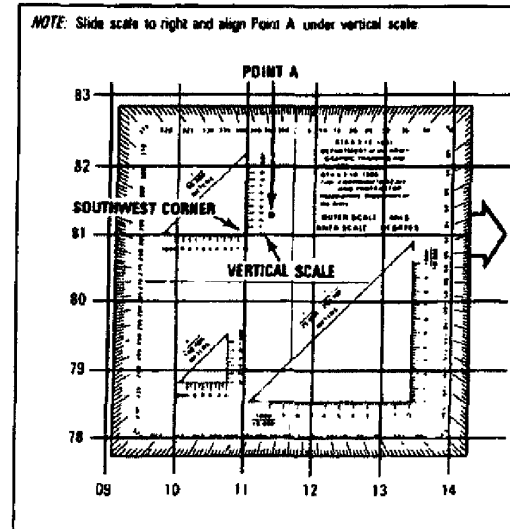

Figure C-15. Placement of the coordinate scale
- a. Locate the grid square in which the point is located (for example, point A, figure C-15) (the point should already be plotted on the map).
- e. Check to see that the zeros of the coordinate scale are in the lower left-hand (southwest) corner of the grid square where point A is located (figure C-15).